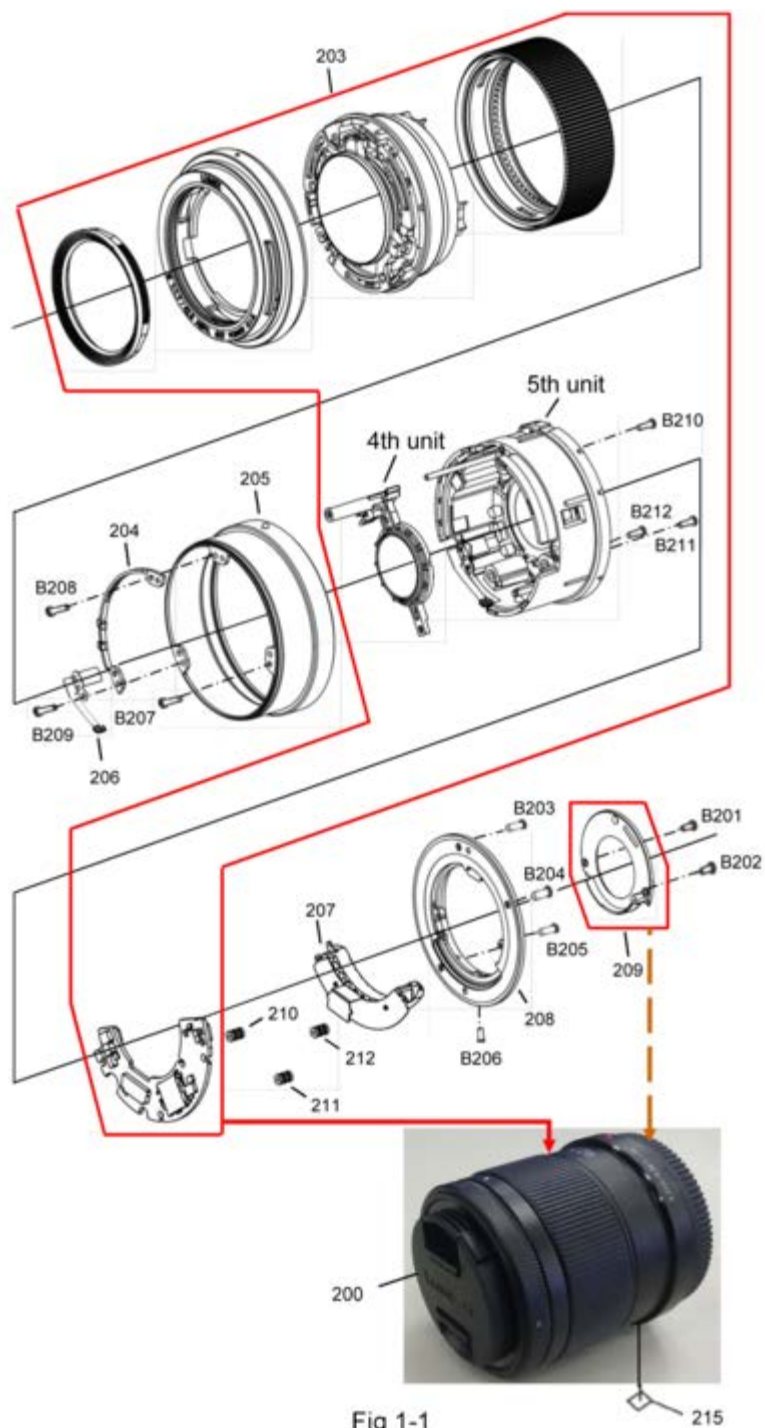

Fig 1-1
- No adjustment is required when replacing the part mentioned on Fig.1-1. But, when tighten the concerned screws, apply proper torque mentioned on "4. Disassembly and Assembly Instruction" section.